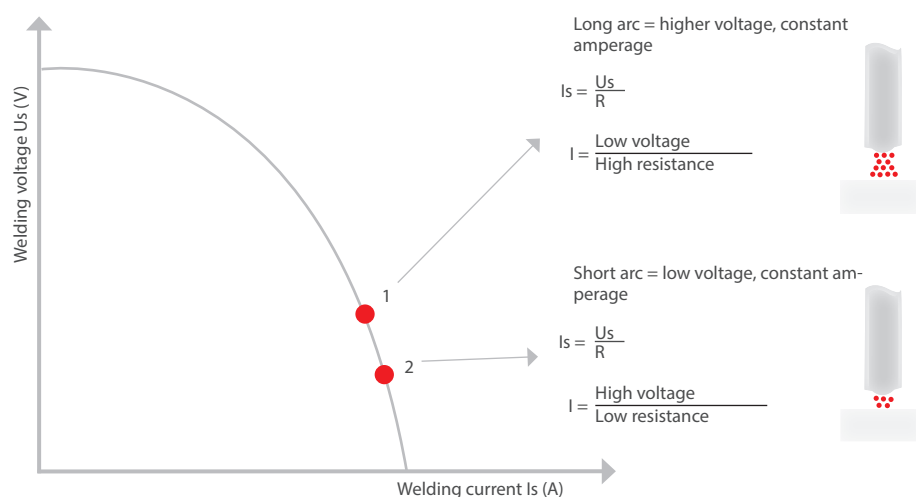

Fig. 22: The strongly drooping characteristic of the CC characteristic.
The welding voltage  $U_s$  (V) is continuously adapted, the welding current  $I_s$  (A) is kept constant. This current is also referred to as the constant current. The characteristic, which is also referred to as a constant-current characteristic, is strongly drooping (Figure 22).